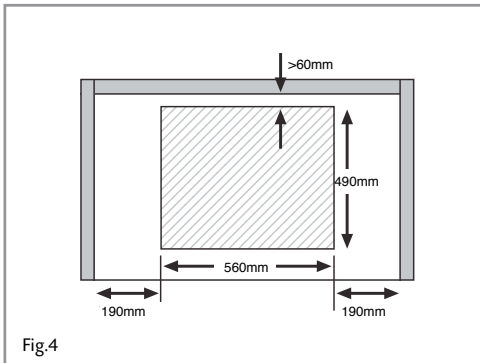

Fig.4
This appliance must be installed a minimum of 50mm from any back wall and a minimum of 190mm away from any adjacent vertical surfaces, e.g. a tall cupboard end panel. This may be reduced to 100mm if the adjacent surface is resistant to fire (tiles or steel, for example). These dimensions are shown in Fig.4.
1. Make the required hole in the worktop. Note that before doing this, check the instructions supplied with any cooker hood to ensure that you will have the required clearance. The cut-out (Fig 4) shows a 61.5mm gap from the wall to the cut-out edge. The distance for the hob, when fitted, to the back wall is 50mm.